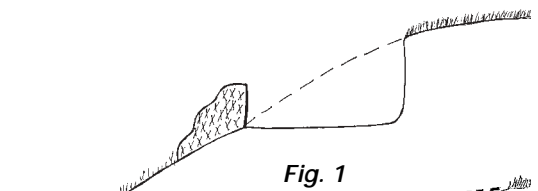

Fig. 1
1. Cut a berm or trench across the slope, starting at the high end. Pile excavated soil on the downhill side of trench. Check trench grade to make sure the trench is sloping to one or more low points if water is to be drained. (See Fig. 1)